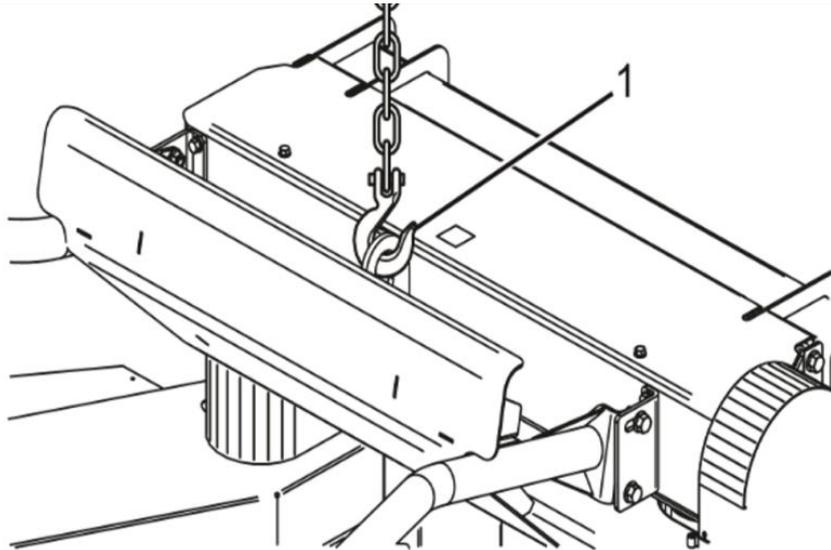

Figure 48 Header lift point
Ensure the harvester and header rest on a flat and level surface. The headers are equipped with a single point lift (item 1, Figure 48 Header lift point) allowing the use of a lift chain (1350kg -3000lbs min capacity) and hook for easy maneuvering.